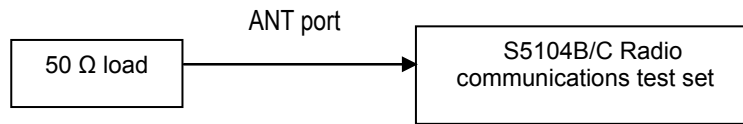

Fig. 6-12 Block diagram for average noise level test of sweep spectrum analysis
- 1) As shown in Fig. 6-12, connect the test instrument, set S5104B/C to the sweep spectrum mode with the center frequency of 300 MHz, zero sweep, the reference level of -70 dBm, the attenuation of 0 dB, the resolution bandwidth of 30 Hz, and enable video averaging and set the averaging times to 10;